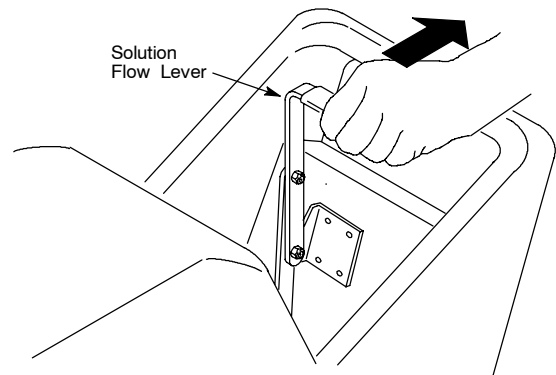

FIG. 9.
- To start solution flow, pull Solution Flow Lever completely backwards. You can regulate the amount of flow by pushing lever forward (Figure 9.).